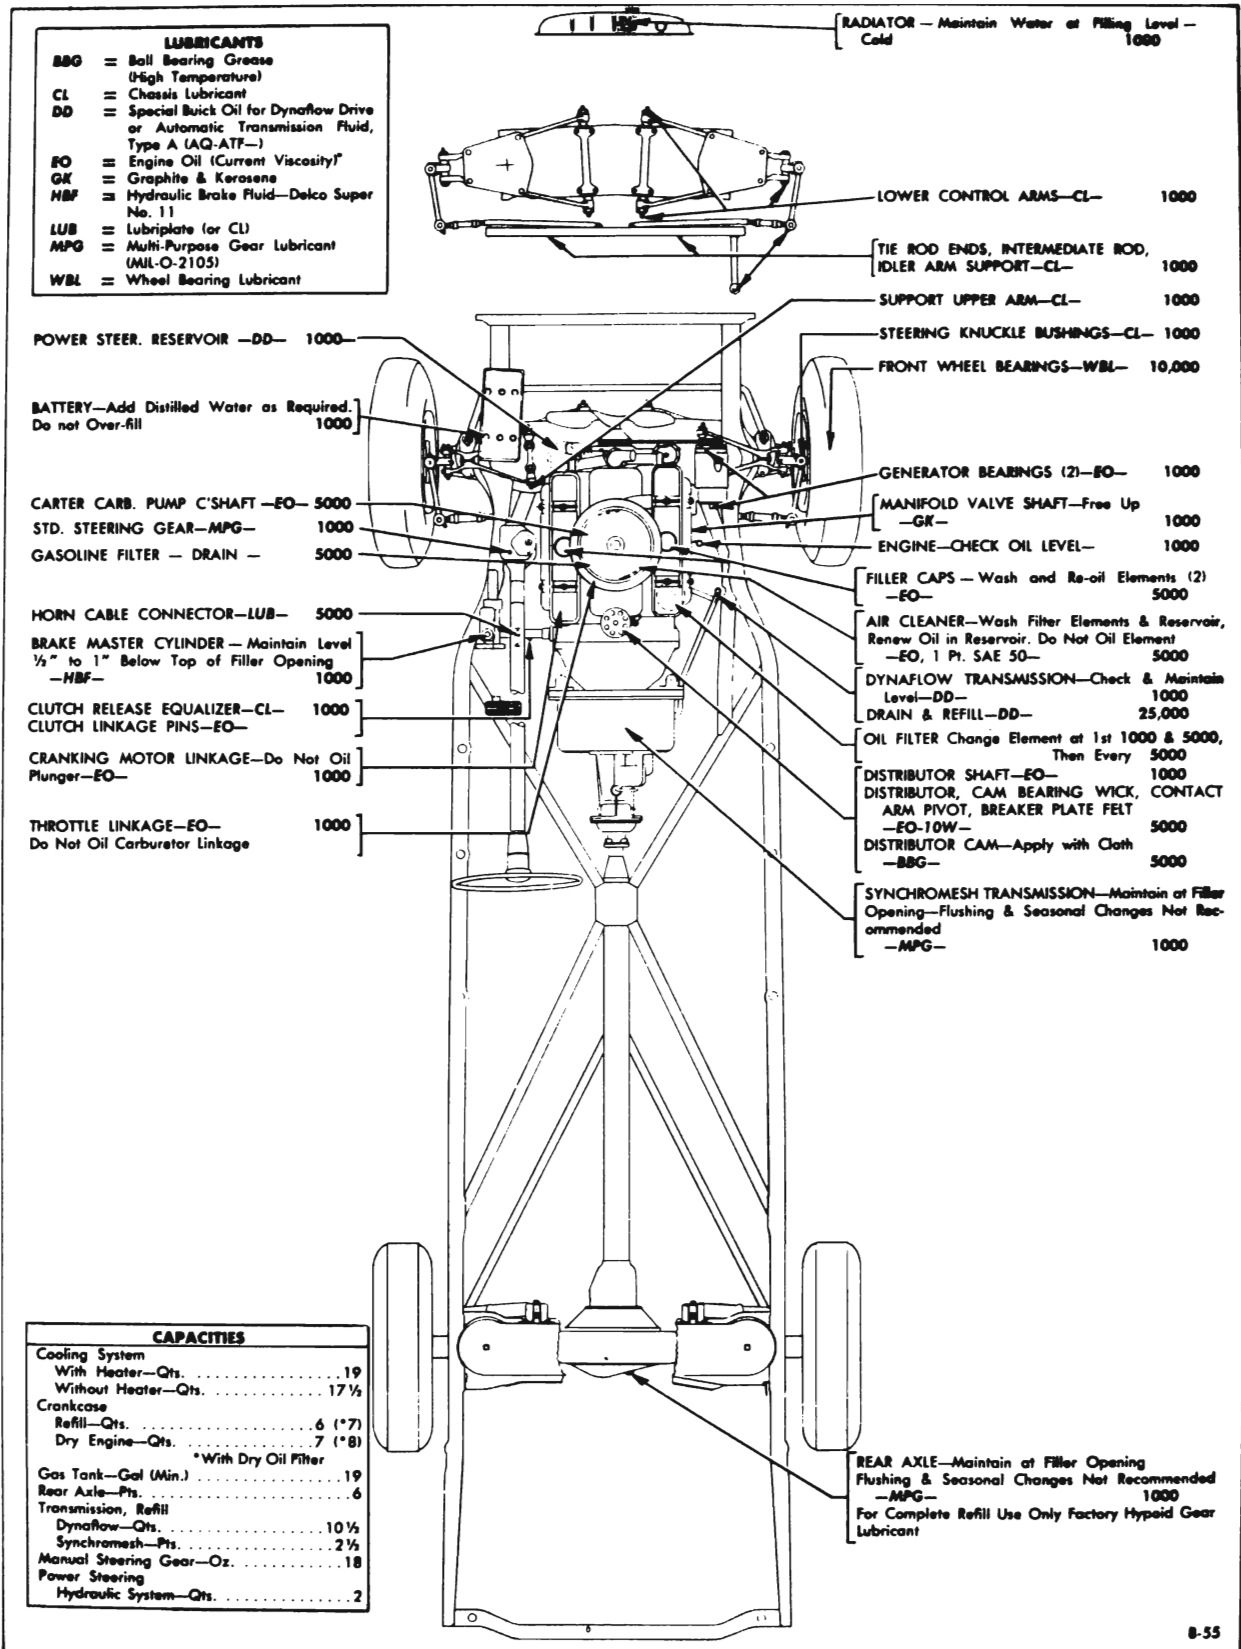

Figure 1-1—Chassis Lubricare Chart—All Series
2. *Front suspension, Brake, Clutch and Transmission Controls.* Wipe dirt from lubrication fittings, then apply a good grade of water resistant chassis lubricant, under pressure, at the following points (fig. 1-1):